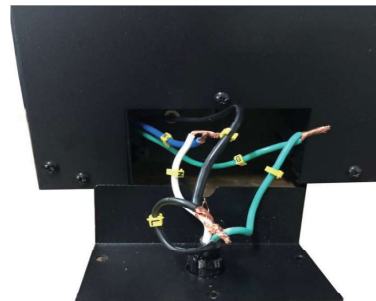

Fig 5-2
B. Remove the wire connectors from the power cord. The power cord may be discarded. **(Fig 5-2)**